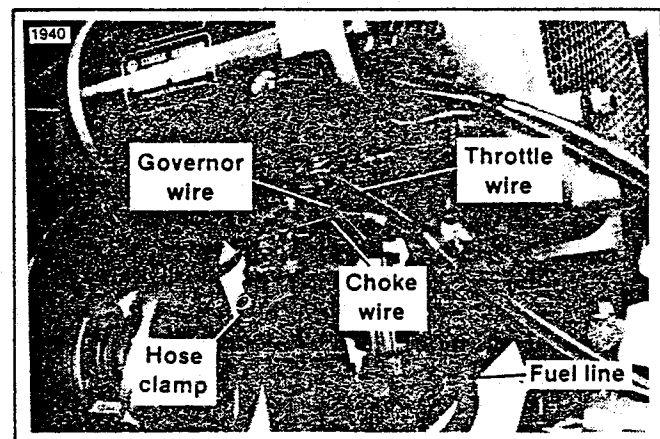

Figure 5-2. Air Cleaner/Throttle, Choke and Fuel-Line
3. See Figure 5-2. Disconnect fuel line at the fuel pump. Loosen the air cleaner hose clamp at the carburetor and pull hose free of carburetor. Disconnect choke, throttle and governor at carburetor. Disconnect the coil wires.
5. See Figure 5-2. Install air cleaner hose to carburetor and tighten clamp. Secure the fuel line to the fuel pump.
7. See Figure 5-2. Install the starter-generator and cable guide. Connect coil and solenoid wires.